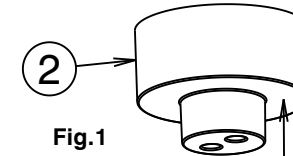

Fig.1
- 1a) Prior to pouring of the concrete slab, install the pipework for hot & cold water supplies in accordance with AS/NZS 3500.1. Slide the installation template (2) over the vertical section of each pipe (1) which will penetrate the slab and position the bottom face (see Fig.1 above) of the template at the approximate finished floor level. Crimp or cap the end of each pipe taking care that heat does not damage the installation template (2). Tag the pipe which will supply hot water for identification later in the installation.
1c) Mark the centre position of the desired location for the Mixer then drill a hole  $\text{Ø}60 \pm 2 \text{mm}$  through the flooring base materials. Install the pipework for hot & cold water supplies in accordance with AS/NZS 3500.1. Slide the installation template (2) over the vertical section of each pipe (1) protruding from the floor and position the bottom face (see Fig.1 above) of the template on the top surface of the floor. Crimp or cap the end of each pipe taking care that heat does not damage the installation template (2). Secure the pipework under the floor using suitable brackets, clips or hangers. Care must be taken that undue strain is not applied to the vertical pipe legs which may influence the pipe centres when the installation template is removed after floor trades are complete.